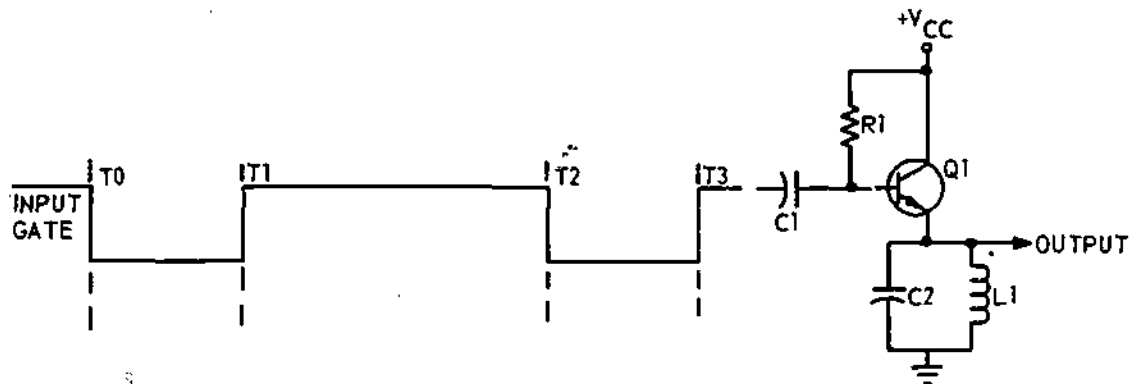

Figure 46-1. Pulsed Oscillator
3. Sine waves would be generated at the emitter of Q1 (figure 46-1) during which time period of the input gate?
4. Frequency of the sine wave appearing at the emitter of Q1 (figure 46-1) is determined by the (input gate width) (value of L1 and C2).